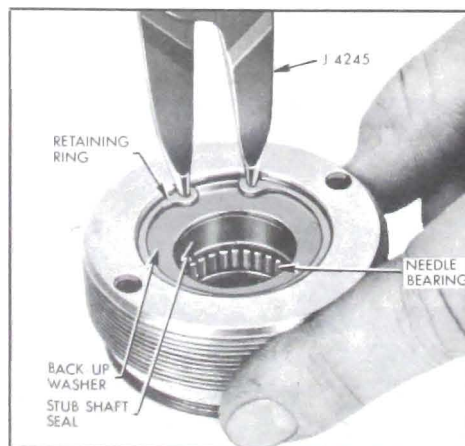

Figure 8-44—Removing Stub Shaft Seal Retaining Ring
3. Remove stub shaft seal retaining ring using No. 3 Truarc Pliers J-4245 and remove and discard dust seal. See Figure 8-44.